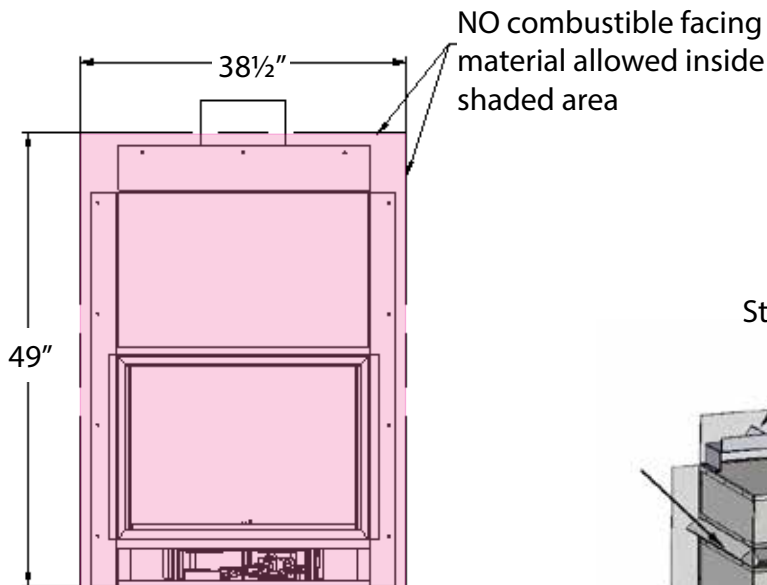

Figure 1
- Combustible facing material must **not** be used within the shaded area shown in Figure 1.